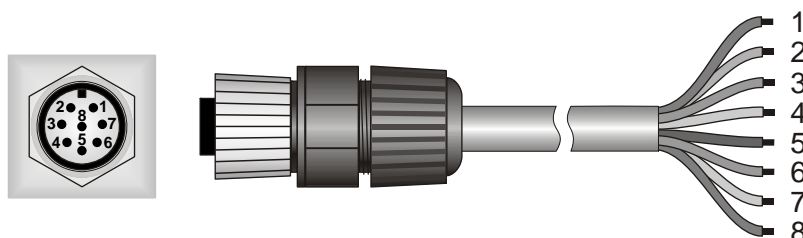

Figure 4
- The optional cable, ending with a connector by one side, is made in PTFE resistant to UV and is provided with 7 wires plus braid (screen), the diagram with the correspondence between cable colours and connector poles is the following (figure 4):